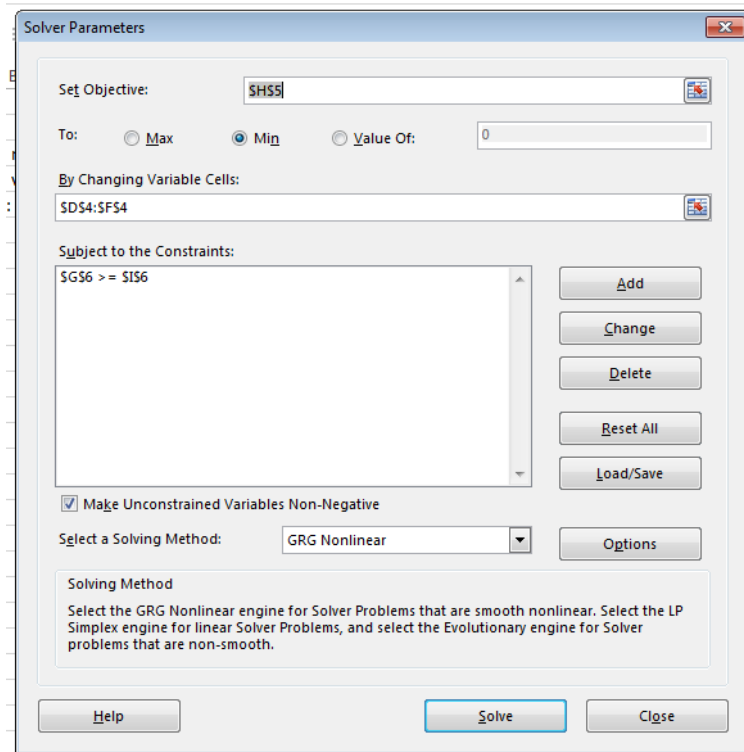

Figure 6: The Solver dialog box after a constraint has been added
3. Now click on “Add” to record the constraint; you should be brought back to the main Solver dialog box, and it should look like the screenshot (fig 6).